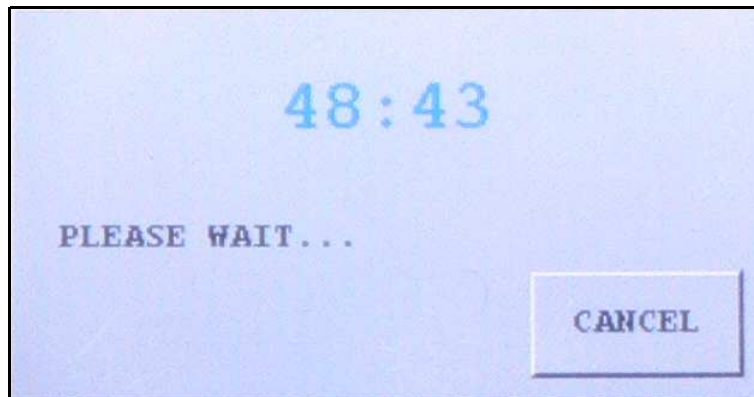

Figure 2-8 Helium Background Timer
- Background is changing, indicating the system is still pumping away background helium, a countdown timer appears (Figure 2-8). The VS system monitors the helium background and shows the time until the calibration begins. Should you prefer not to wait, a *Cancel* button permits the calibration request to be cancelled.